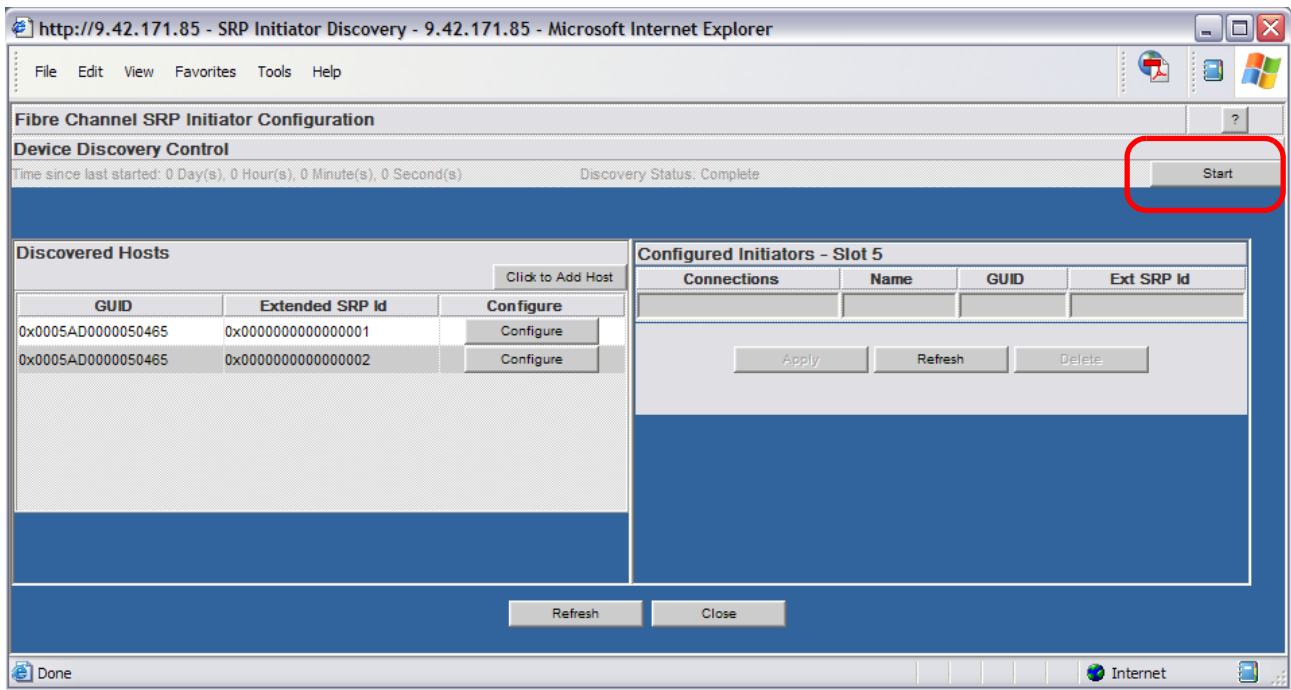

Figure 4-21 SRP Initiator Discovery screen
- Open the Web interface of your bridge module and click **SRP Initiator Discovery**, then click **Start** on the upper, right side of the page as shown in Figure 4-21. The SRP initiators that you created should be discovered and displayed under **Discovered Hosts**.